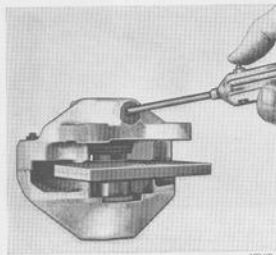

Fig. 5-25. Removing piston
2. Remove the retaining ring and the rubber dust covers. Place a wooden disc, see Fig. 5-3, between the pistons and press them out towards the disc with the help of an airline, see Fig. 5-25. The pistons can then be easily removed. Lever off the rubber covers.